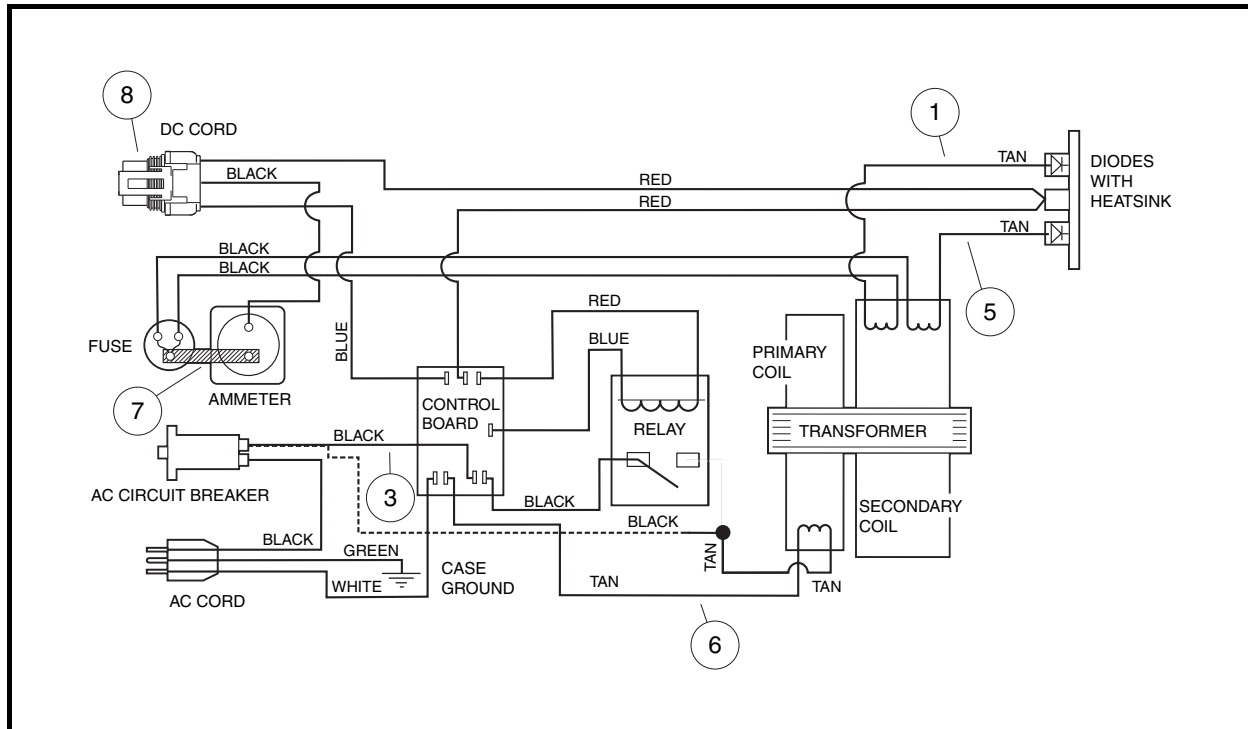

Figure 9-11 Transformer Test Wiring Diagram
- 5.3.1. To bypass the relay, remove the black wire (3) from the AC circuit breaker and disconnect the black wire (4) from the relay. Connect the black wire (4) to the AC circuit breaker (**Figure 9-11, Page 9-16**).
6. If the circuit is not complete, check the wiring of the AC cord, AC cord reel, transformer primary coil wires, and internal AC circuit breaker (**Figure 9-11, Page 9-16**).
3. Disconnect the charger DC cord at the three pin connector (8) (**Figure 9-11, Page 9-16**).
4. Using a continuity tester (CC P/N 1011273) or multimeter set to 200 ohms, connect the test probes to the DC cord black wire and red wire terminals in the three pin connector (**Figure 9-11, Page 9-16**). Note the reading.
4. Disconnect transformer secondary coil wires (1 and 5) from the heatsink (**Figure 9-11, Page 9-16**).
- 5.1. To bypass the relay, remove the black wire (3) from the AC circuit breaker and disconnect the black wire (4) from the relay. Connect the black wire (4) to the AC circuit breaker (**Figure 9-11, Page 9-16**). **See following DANGER**.
10. Connect the AC cord to the wall outlet and monitor the multimeter for the secondary coil voltage. If measured voltage is approximately 85 volts AC or lower for the secondary coil, the transformer is shorted internally and must be replaced (**Figure 9-11, Page 9-16**).
3. Disconnect terminals from transformer (tan) primary coil wires (4 and 6) (**Figure 9-11, Page 9-16**).
3. Remove the transformer (tan) secondary coil wire (1) from the upper terminal of the heatsink (**Figure 9-11, Page 9-16**).
4. Remove the other transformer (tan) secondary coil wire (5) from the bottom terminal of the heatsink and place the continuity test clip on the ammeter buss bar (7) (**Figure 9-11, Page 9-16**). Test for continuity between the buss bar and each of the secondary coil wires (tan). The tester should indicate continuity between the buss bar and both of the secondary coil wires. If tester does not indicate continuity on both secondary coil wires, replace transformer. Ensure that the fuse is intact and not blown.
3. Remove black wires from contact terminals of the relay (**Figure 9-11, Page 9-16**). Place continuity test probes on contact terminals of the relay. The tester should indicate no continuity. If tester indicates continuity, the relay contacts have failed closed and the relay must be replaced.